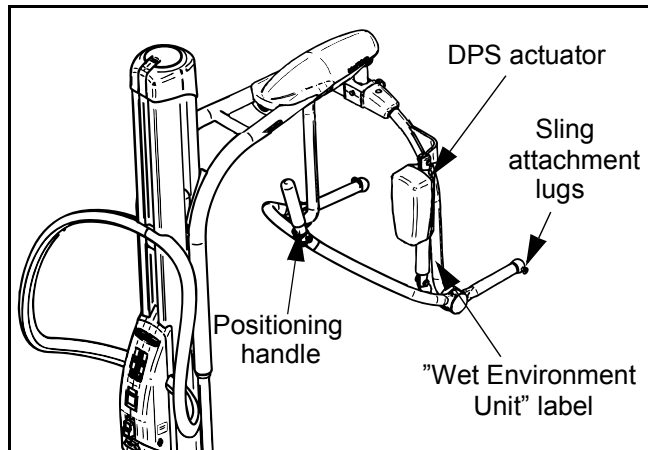

Fig. 35
If your lift has been supplied equipped with a powered DPS spreader bar (see Fig. 35), the use of this type of spreader bar—including sling positioning with patients, sling connection to the spreader bar, and patient handling—is the same as the manual DPS spreader bar described previously in these instructions.
**WARNING:** Before using your lift equipped with the powered DPS spreader bar, familiarise yourself with the various parts as illustrated in Fig. 35. Read and thoroughly understand these operating instructions in order to avoid mistakes that could result in injury.